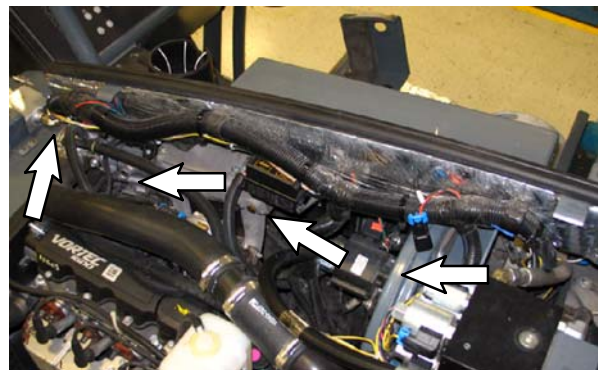

FIG. 10
45. Route the *ec-H20* harness along the bottom of the main wire harness and to the front of the machine. Refer to Fig. 10.